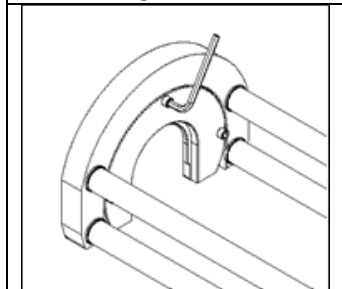

Figure 21 – Remove Adaptor
- 5.3.6 If the Pulling Shoe Insert Adaptor has not been removed from the Pulling Shoe, remove it now. Bearing assembly installation cannot be completed when the Pulling Shoe Insert Adaptor is attached to the Pulling Shoe (Figure 21).